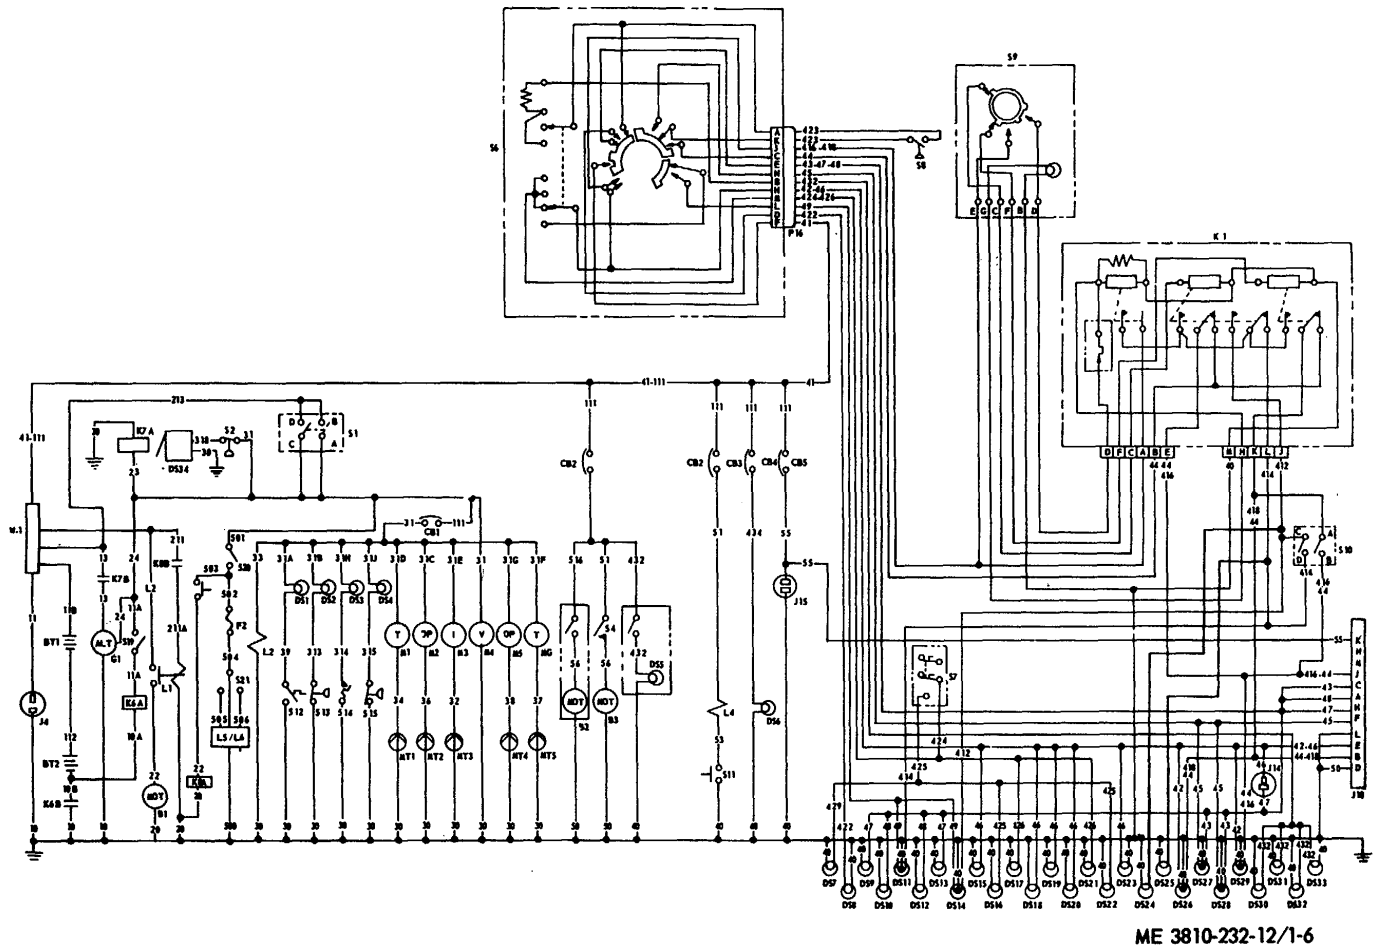

Figure 1-6. Wiring diagram (model 2385).
- (2) Model 2385 wiring diagram (fig. 1-6).*